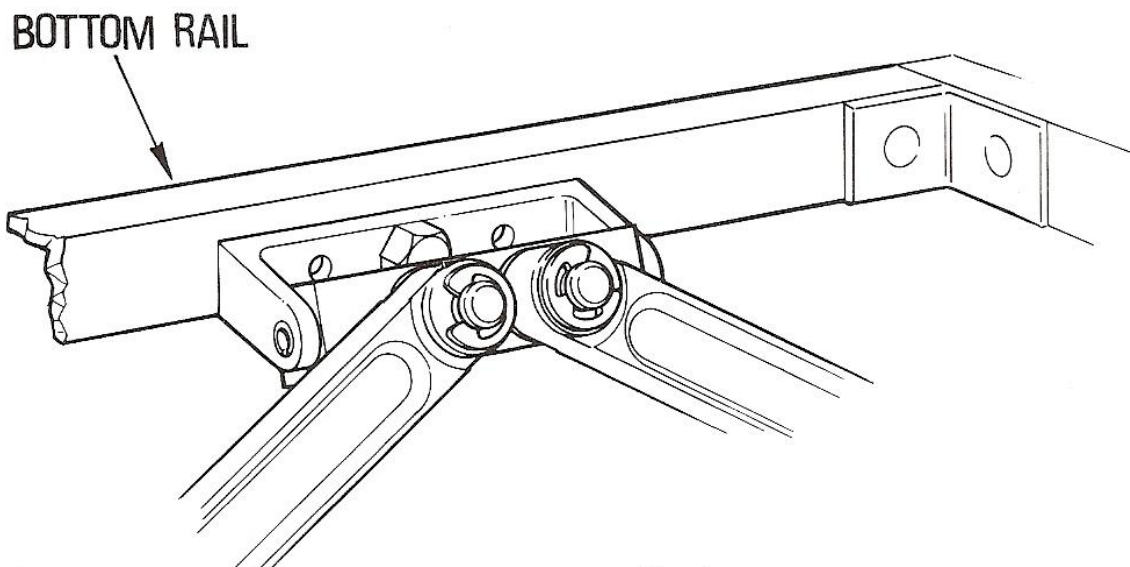

Fig. 4
1. After removing the vent stay and pin attach the 'U' bracket to the vent bottom rail using a spare $\frac{1}{2}$ " hexagon headed bolt and nut (if you have one available after completing erection of the greenhouse) through the vent stay fixing screw hole and the middle holes in the 'U' bracket. Alternatively you may drill the vent bottom rail with two holes $\frac{3}{16}$ " diameter clearance and use two of the small round head screws and nuts from the screw pack to fasten the 'U' bracket direct to it. **See Fig 4.**